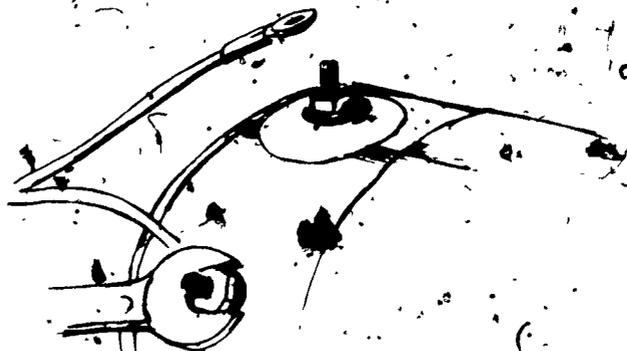

FIGURE 1
1. Remove the leads from the generator terminals (Figure 1).